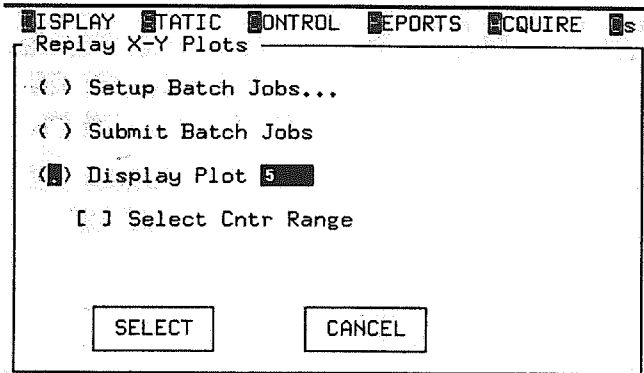

Figure 12-24 Dialog Box used to Select a Replay XY Plot for Display
Step 1) Select **Graphs, Replay X-Y Plots** option. The dialog box shown in **Figure 12-24** is displayed.